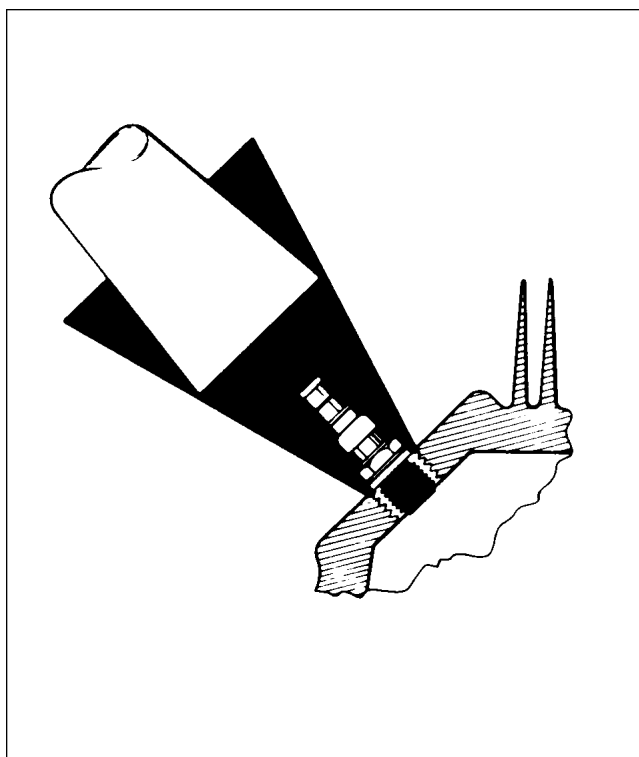

Figure 74-28. Removing Spark Plug
- d. Removal of seized spark plugs in cylinder is done by application of liquid carbon dioxide (CO₂) by a conical metal funnel adapter with a hole at the apex just large enough to accommodate the funnel of a 20 lb bottle. (Refer to Figure 74-28.) When a seized spark plug cannot be removed by normal means, funnel adapter is placed over and around spark plug. Place funnel of CO₂ bottle inside funnel adapter and release carbon dioxide to chill and contract spark plug. Break spark plug loose with a wrench. A warm cylinder head at the time carbon dioxide is applied will aid in removal of excessively seized plug.